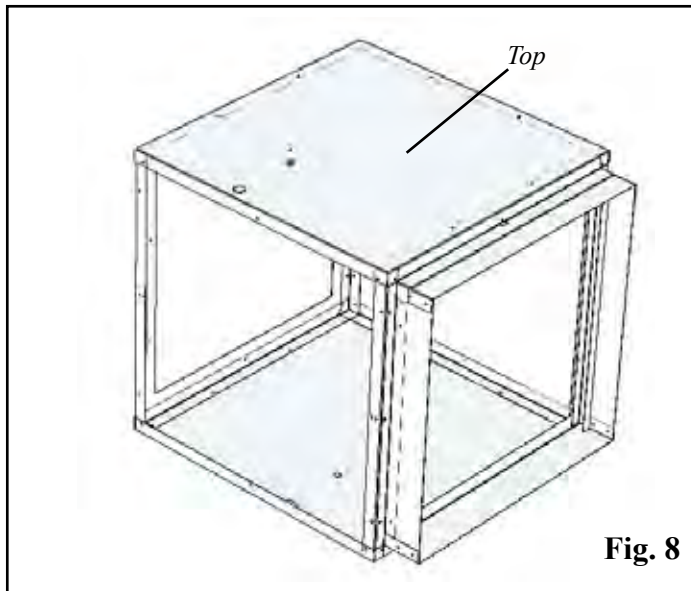

Fig. 8
5. Place the top on the filter box as shown in figure 8. At this time all Tek screws can be inserted around the filter box. **Note:** Except for the (6) screws that attach the blower access panel in place.